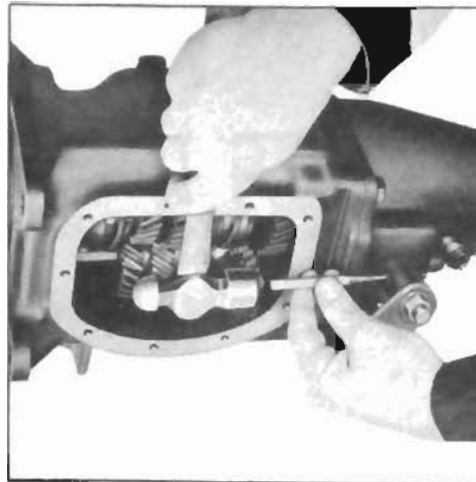

Figure 4-43—Removing Reverse Shifter Shaft Lock Pin
3. Drive lock pin up from reverse shifter lever boss, as shown in Figure 4-43, and pull shifter shaft out about 1/8". This disengages the reverse shift fork from reverse gear.